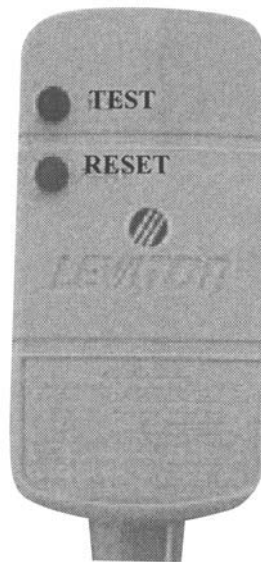

Figure 1. 110V / 15 Amp GFCI Plug
- All 110V spas must have a GFCI (Figure 1). This can be either a 15-amp GFCI receptacle or a GFCI cord and plug kit (CKIT110 - P/N ELE09700086).